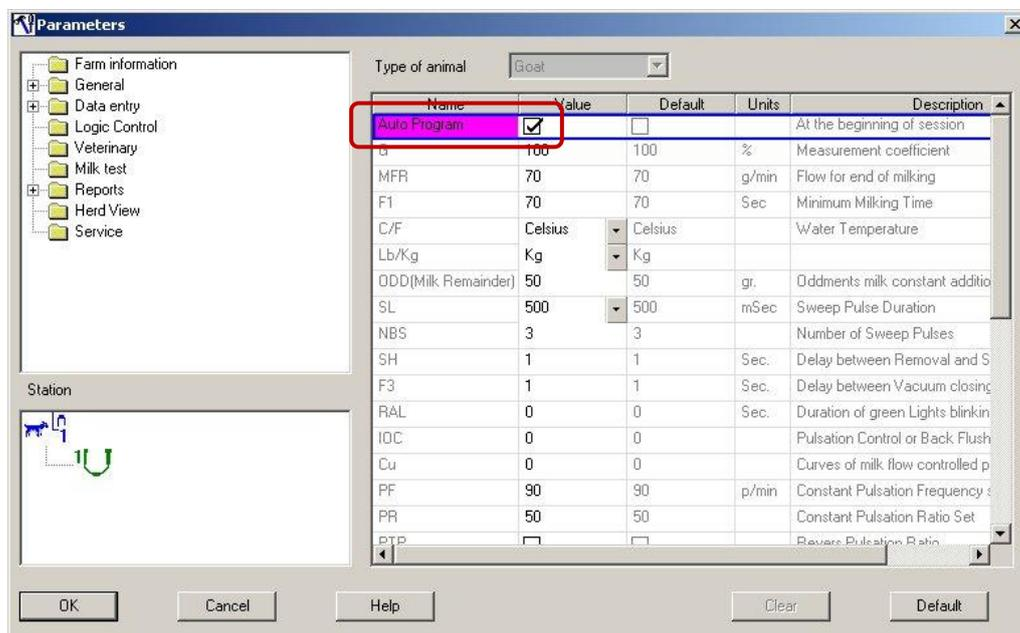

Figure 40: The Auto Program Check Box
The AfiFree 155i parameters appear in the right hand pane (Figure 40).
4. Select the Auto Program check box (Figure 40).
In the Parameters window, make sure the Auto Program check box is selected (Figure 40)